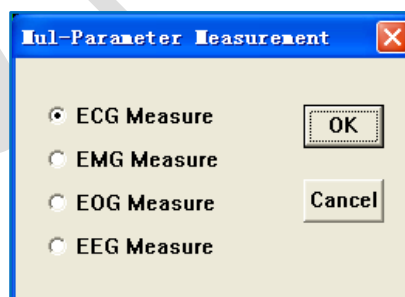

Fig 4-7 Selection of Multi-Parameter Measurement
- Click on Multi-parameter measurement **[Mul-Meas]** at functional menu bar to open a new dialog box, and then select the corresponding parameter to measure (See Fig 4-7). Only values of the selected parameter will be measured in this option, e.g. ECG Measure will not work on EEG waveforms.